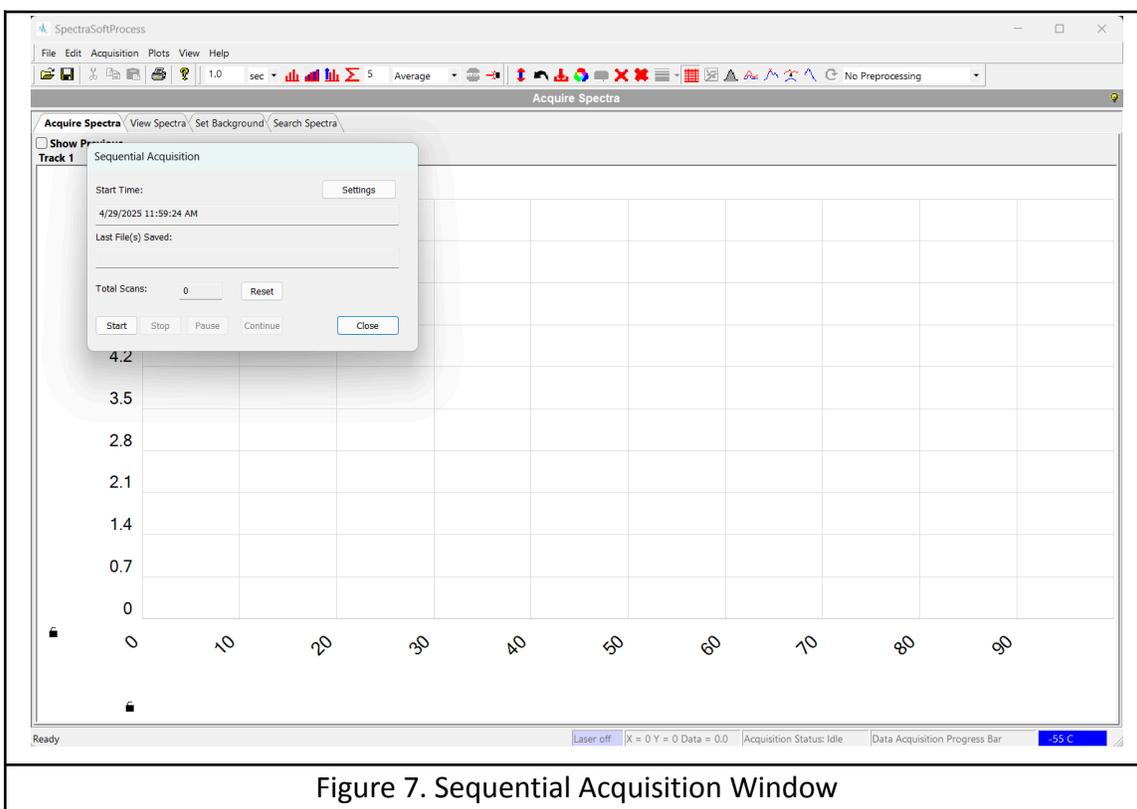

Figure 7. Sequential Acquisition Window
- b. When the sequential button is selected, the popup Sequential window appears as shown in Figure 7.